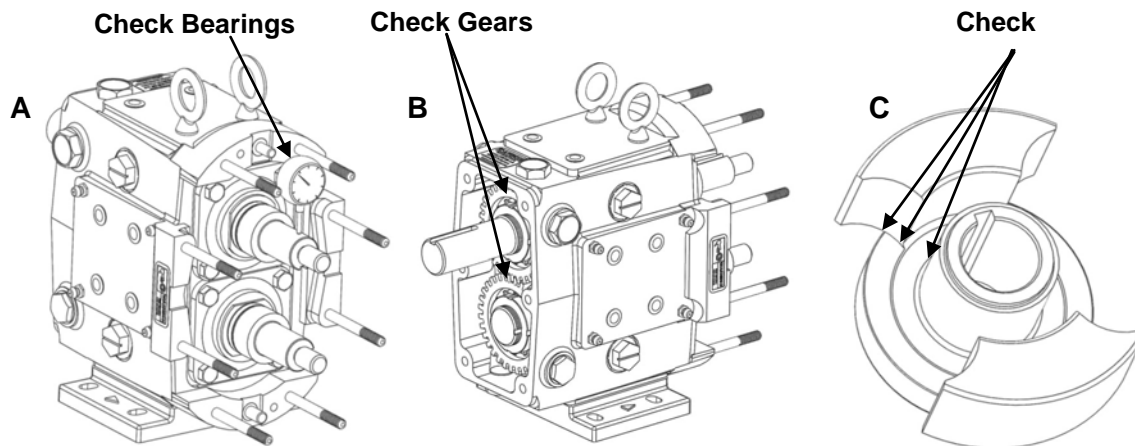

Figure 22: Annual Maintenance Checks
- Check the gear case bearings by measuring the shaft's radial movement with a dial indicator (Figure 22, A). If the movement is greater than or equal to the rotor-to-body clearance found on page 28 (Table 8) the bearings should be replaced.
- Remove the gear casing cover (See page 21 for disassembly information) and inspect the gears for wear and damage (Figure 22, B). Also check for backlash and looseness.
- Inspect the rotors for signs of wear and stress cracks around the areas defined in Figure 22, C. Replace, if necessary.